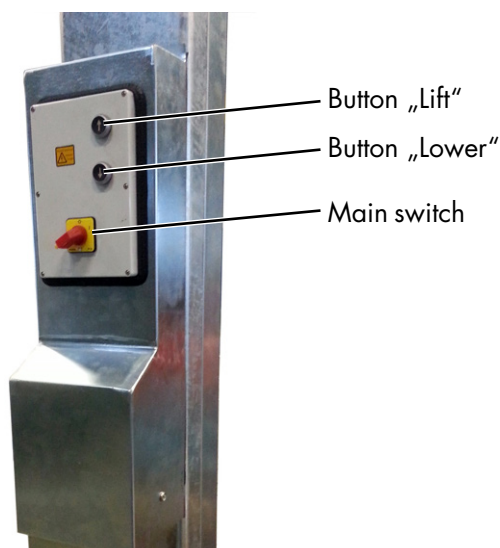

Fig. 4: Hydraulic unit with operating element
- Lift the vehicle until the wheels are off the ground. Push the "Lift" button (see figure 4).